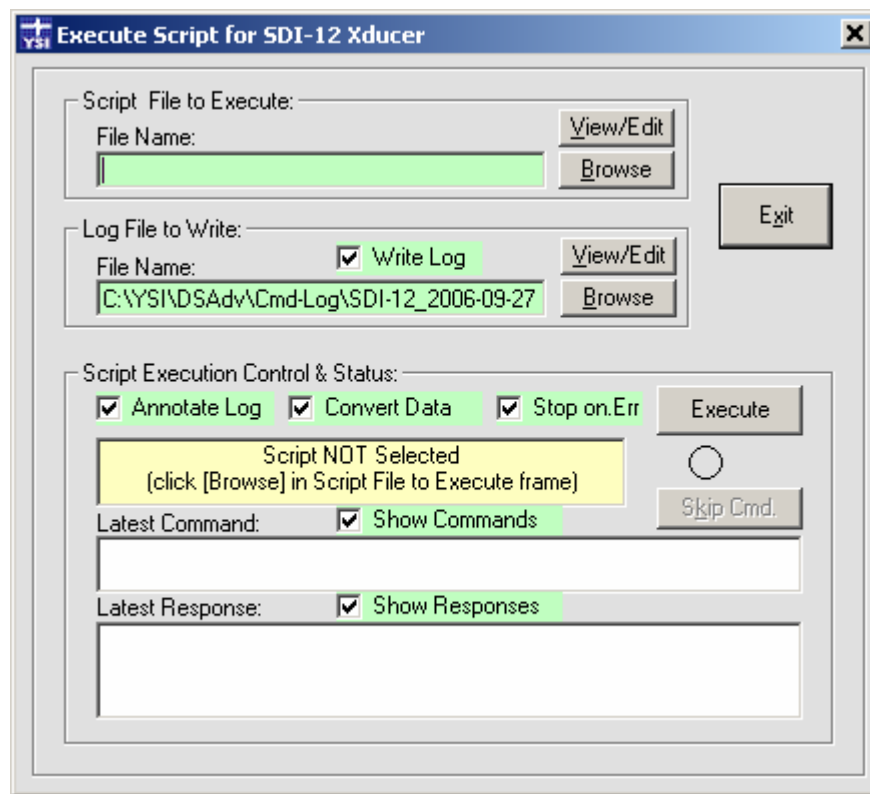

Figure 5.1
Unlike the main Data Scout Advanced window and the Run window, the **Execute Script** window has no menu bar below its title bar (figure 5.1). Instead it has several visual control frames, each containing text boxes, visible buttons, and other “hidden” controls (e.g., double-clicking a File Name text box is the same as clicking its Browse button). Each frame allows the user to control the three main phases of operating this function: (1) choosing a Script (command) file to be executed, (2) choosing a Log file to record results of script execution, and (3) actually executing the script and viewing its progress. After Script file execution, the Log file may be examined to see the response of every command executed.